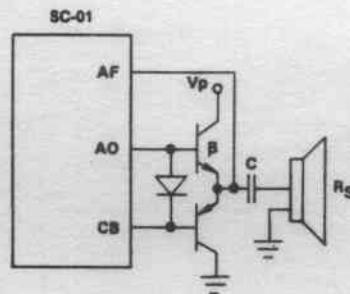

Figure 12. Class B Amplifier\*
**Class B Amplifier:** See Figure 12. A current source (CB) is required for this push-pull amplifier.